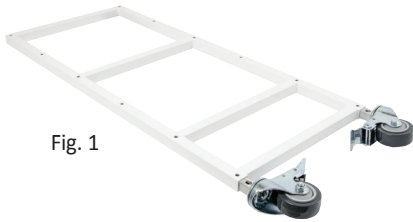

Fig. 1
1. Take one of the Upper Side Walls (Part A) and lay it down on the floor (see Fig. 1). Screw two of the Casters (Part D or E) into the inserts in the bottom of the upper side wall by hand. Do not overtighten the casters.